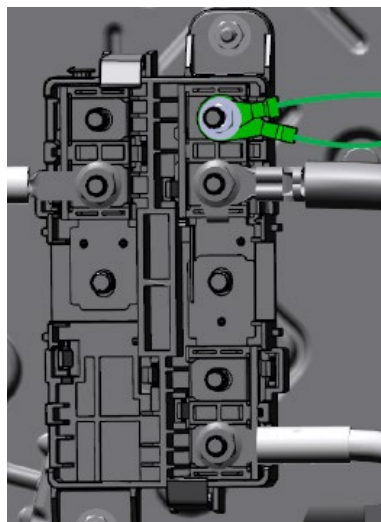

Figure 2
3. If they are aligned with each other (figure 3) remove the M8 nut securing eyelets and relocate one to another terminal (if a free terminal is available) or offset them (figure 2)